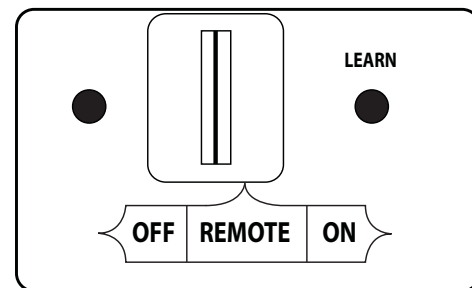

Fig. 39-2 Remote receiver (OFF for Manual Light)
1. Ensure the pilot is burning. If equipped, locate the 3-position switch on the remote receiver (see Fig. 39-2), and slide the switch to the **OFF** position.